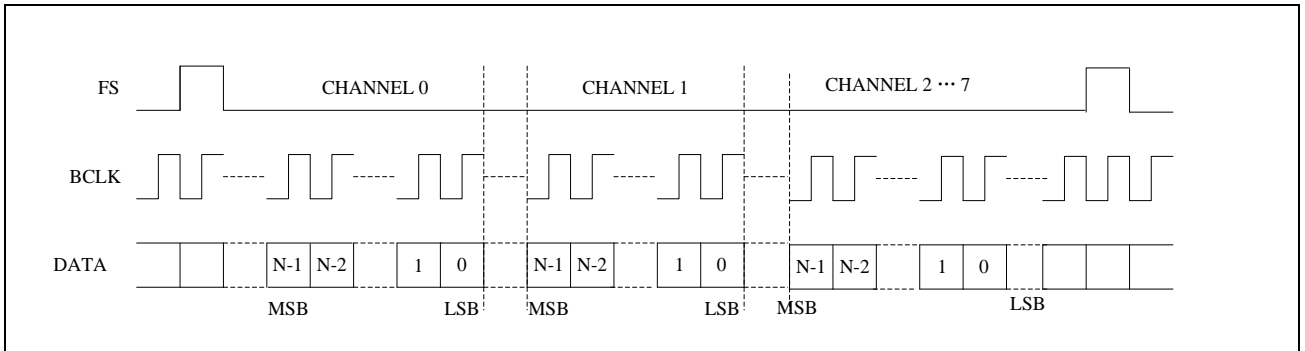

Figure 18 PCM Time Slot Audio Data
Normally, the DAC data is clocked immediately after the Frame Sync (FS); however, in PCM Time Slot Mode, the audio data can be delayed to a specific channel or time slot. These channels or time slots can be seen in Figure 18.